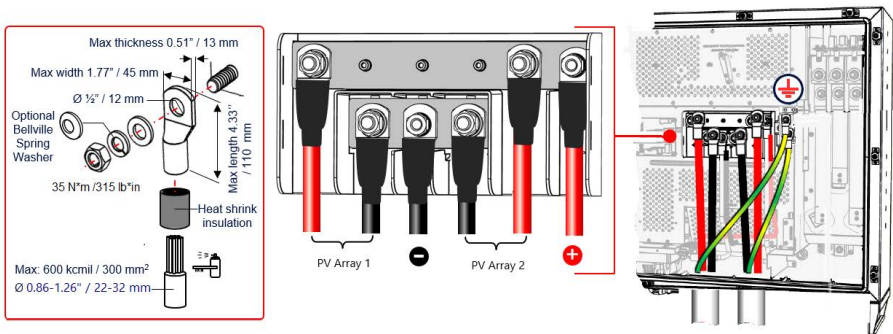

Figure 26: Connecting the DC wires to the Inverter
7. Connect the DC wires to the DC bus-bar according to the labels on the terminals. Tighten the nuts to 35 N\*m/315 lb\*in (see Figure 26).